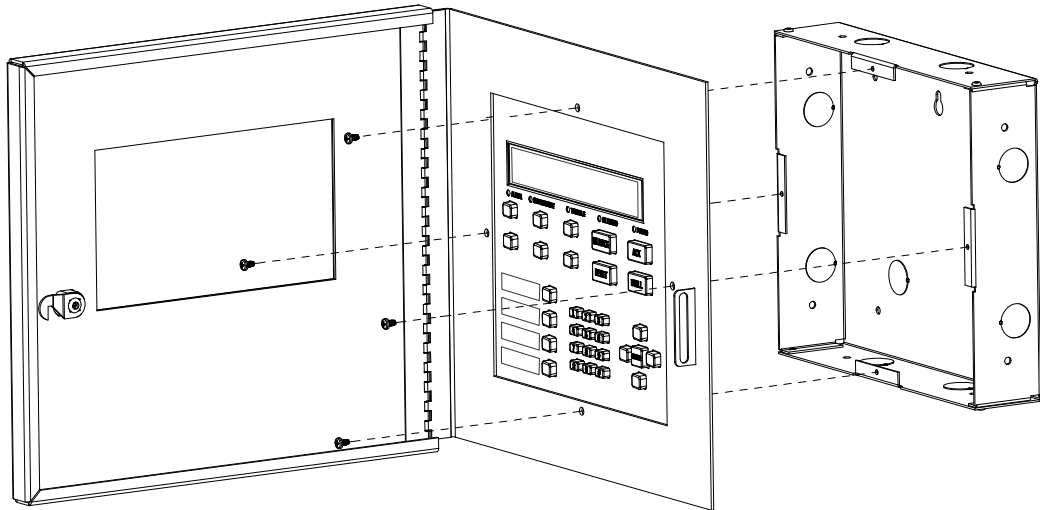

Figure 4.25 Attaching Annunciator / Door Assembly to Backbox
9. Attach the door assembly to the backbox using the screws provided. Refer to Figure 4.25.